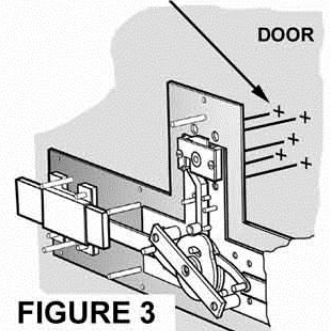

FIGURE 3
5. **This step only applies to Model 420 Locks. Mark four Cylinder Shield holes & Cylinder centre using the Lock Backing Plate as a template. (Fig. 3)**